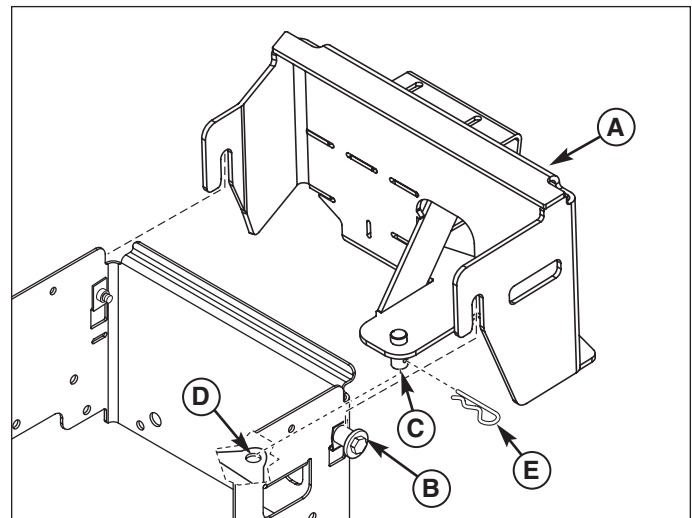

Figure 2. Hitch Installation
4. Slide the hitch (A, Figure 2) on right side and left side shoulder bolt (B) while sliding pin (C) into hole (D) as shown. Secure with hair pin (E).